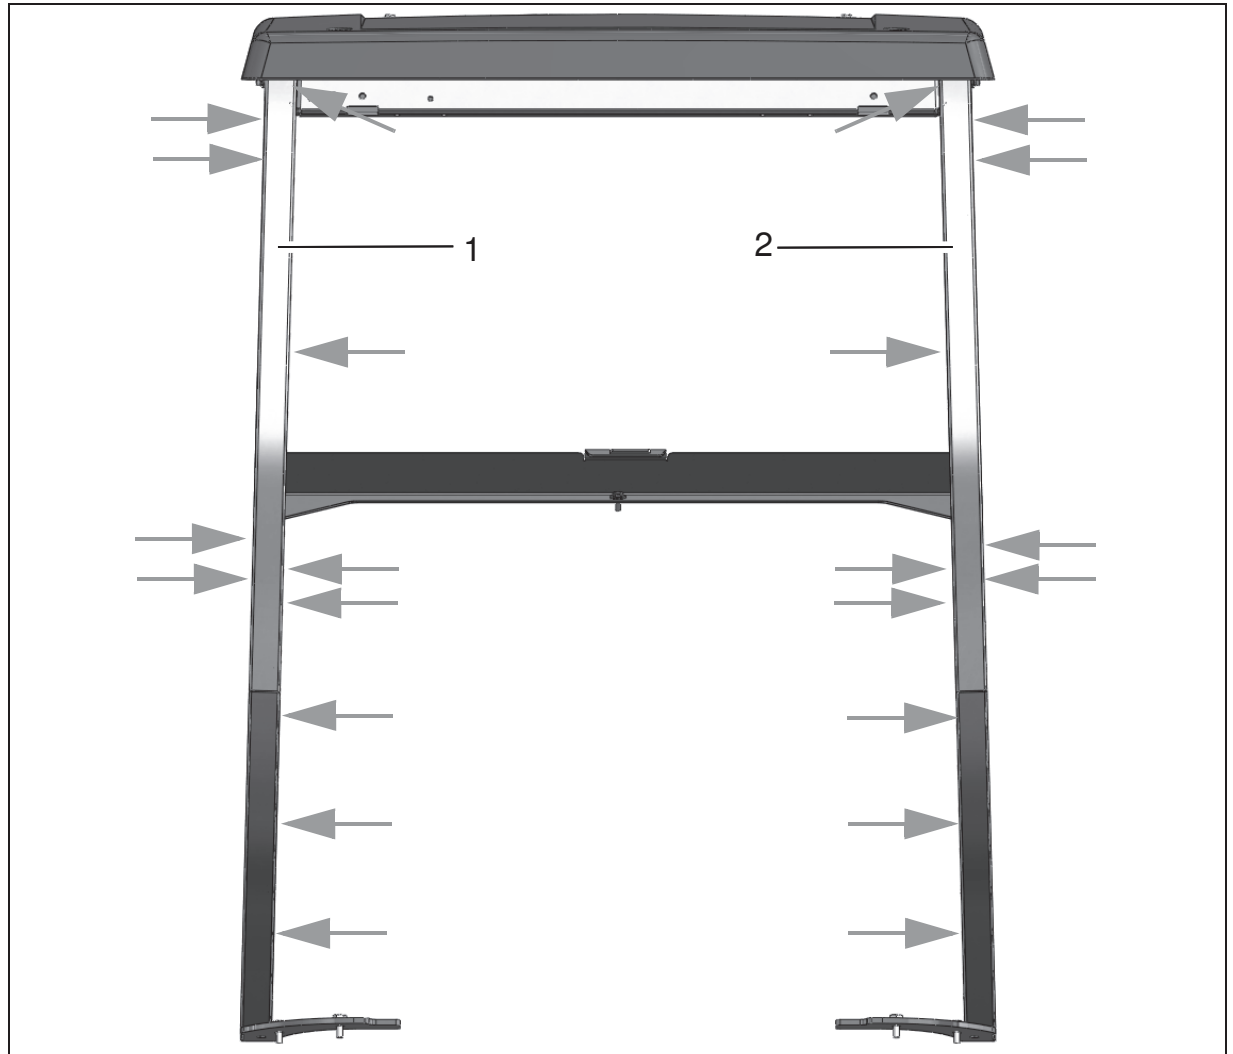

Fig. 3
- Screw on the M8 rivet nuts in the right-hand door frame (Fig. 3/1) and left-hand door frame (Fig. 3/2) of the cab safety roof.